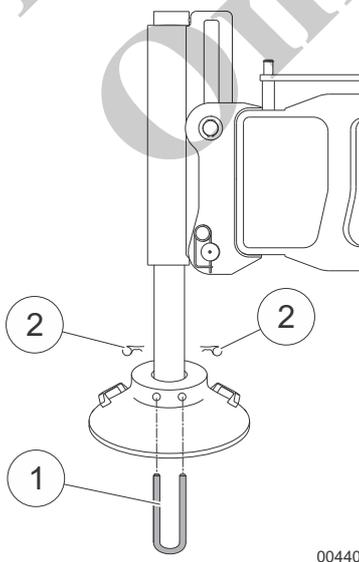

Fig. 124 Attaching the outrigger pad
- 9 Extend the outrigger cylinder until the outrigger pad can be attached. Insert the locking bracket (1) and spring washer (2) in Fig. 124.